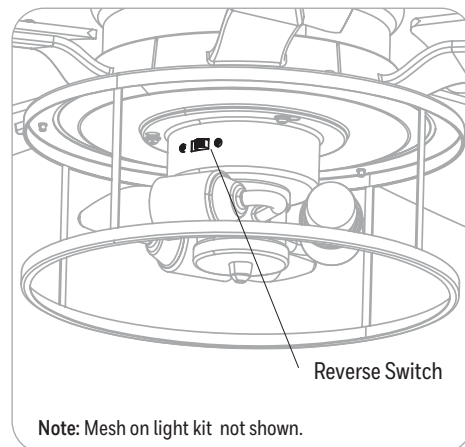

Figure 6.2
- Use the reverse switch located on the light kit to optimize your fan for seasonal performance. **In warmer weather**, push the reverse switch left which results in downward airflow creating a wind chill effect. **In cooler weather**, push the reverse switch right which results in upward airflow that will help move hot air of the ceiling (Figure 6.2). **Important:** Wait for the fan to stop before moving the reverse switch located on the light kit. The reverse switch must be set either completely left or right in order for the fan to function correctly. If the reverse switch is set in the middle position, the fan will not operate.